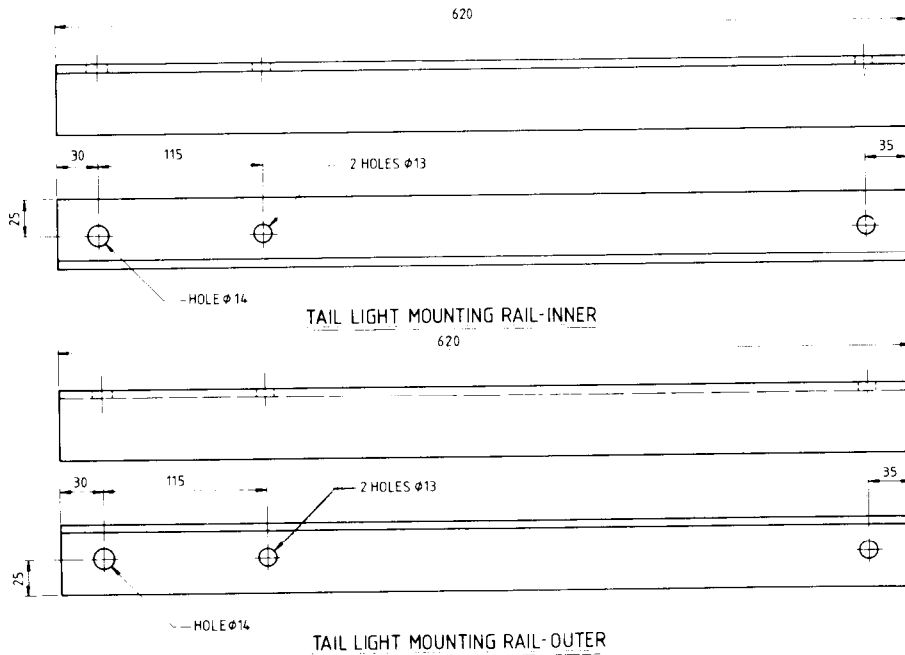

FIG 5 - R/H TAIL-LIGHT ASSEMBLY SUPPORT RAILS
- Manufacture two tail-light mounting bracket support rails as shown in Fig 5 using item 5 from Table 1.
- Fit the outer support rail to the truck (14 mm hole to the rear) using the original light mounting bracket outer bolt hole (vertical surface of angle iron is towards the centre of the truck) secure using items 3, 7 and 8 from Table 1.
- With the rail parallel to the tray centre line and using the rail as a guide drill a 12 mm hole and secure the rail to the tray member above the fuel tank position using items 3, 7 and 8 from Table 1.
- Fit the inner support rail (vertical surface towards R/H side of tray) to the new rear mounting hole using items 3, 7 and 8 from Table 1.
- With the rail parallel to the tray centre line drill a 12 mm hole and secure the rail to the tray member above the fuel tank position using item 3, 7 and 8 from Table 1.